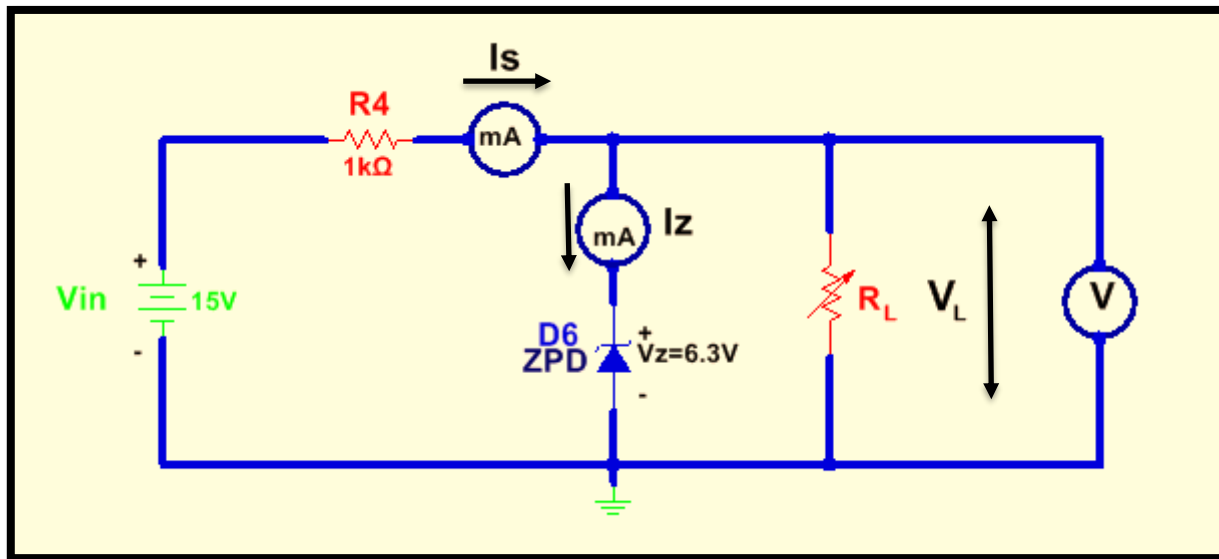

Figure 8: Practical Circuit for Zener Diode Voltage Regulator with Variable Load Resistor
- Connect the voltage regulator circuit shown in Fig.8, and vary the load resistor  $R_L$  in several steps as shown in Table 2. Record  $V_L$ ,  $I_S$ ,  $I_Z$ , and  $I_L$  where  $I_L = I_S - I_Z$ .
Table 2: Recorded Data for the Voltage Regulator Circuit of Figure 8
4. For the zener diode voltage regulator circuit of Fig.8, sketch the relation between  $V_L$  and  $I_L$  ( $V_L$  versus  $I_L$ ). Plot the relation between  $I_S$  and  $R_L$ . Sketch also the relation between  $I_Z$  and  $I_L$ . Comment on the resulting curves.
5. Calculate the theoretical minimum value of  $R_L$  required for putting the zener diode in the zener breakdown region for the regulator circuit of Fig.8. What value of load resistance results in the maximum zener current? Determine the maximum Zener current  $I_{Z(max)}$  in this case and compare it with  $I_{ZM}$ .